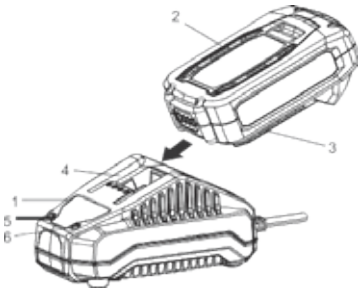

Fig. 1
1. Place the battery charger (1) in a dry location near a 120V 60 Hz electrical outlet (Fig. 1).